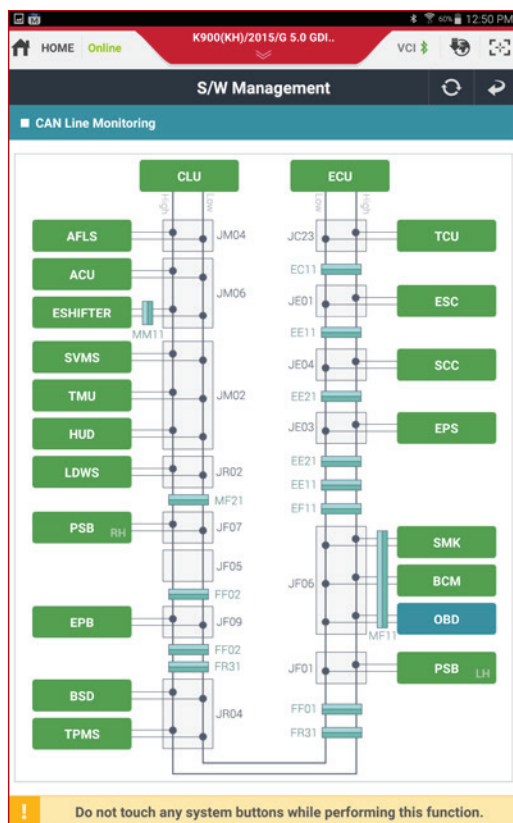

Fig. 3.
4. (Fig. 3) Disconnect connector **E** and use a small brush to apply Stabilant 22A to the Main To Antenna Harness Connection AM/FM input pin (Pin 2) **F**.
4. Review the CAN Monitoring test instructions and other critical details in the Etc. portion of the screen (Fig. 3).